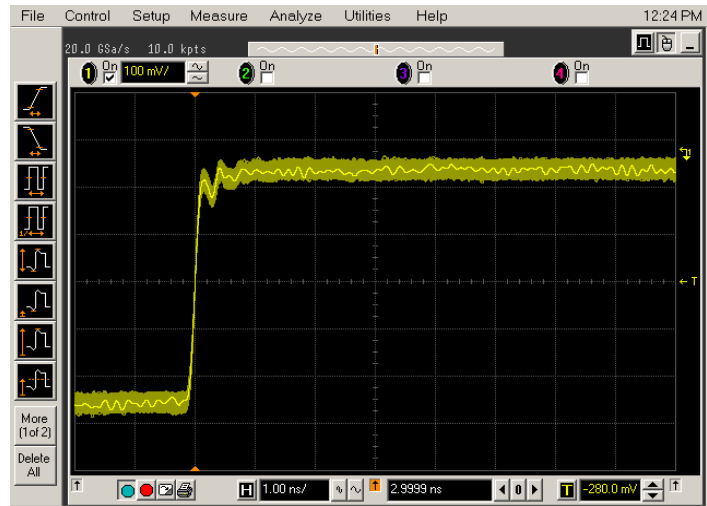

Figure 40 Good Connection
- 4 Set the horizontal position to approximately 3 ns. You should see a waveform similar to that in Figure 40.